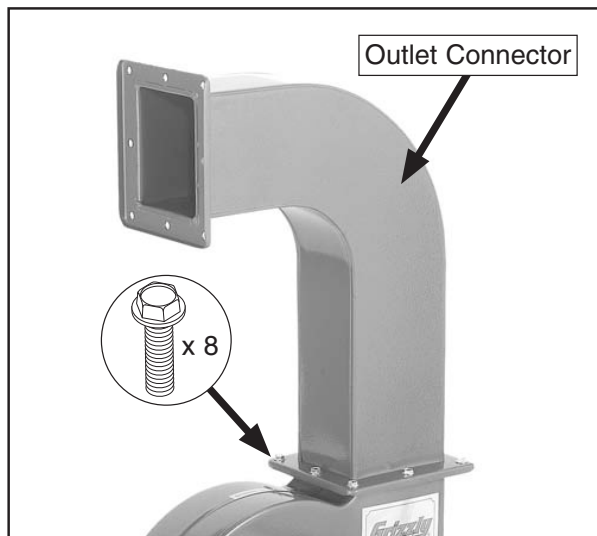

Figure 17. Outlet connector installed.
- Secure the outlet connector to the impeller outlet with (8) $\frac{5}{16}$ -18 x $\frac{1}{2}$ " flange bolts, as shown in **Figure 17**.